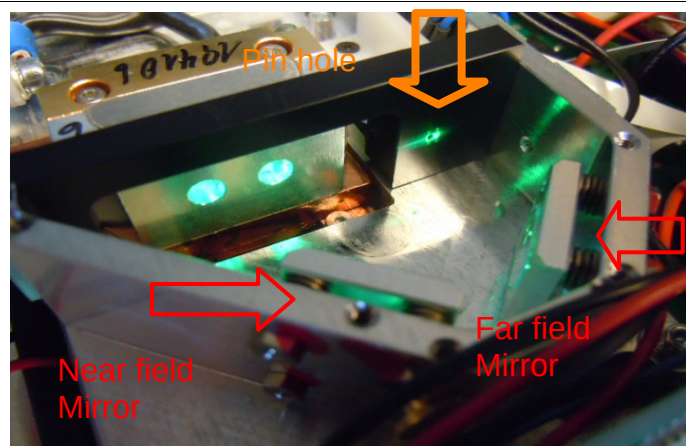
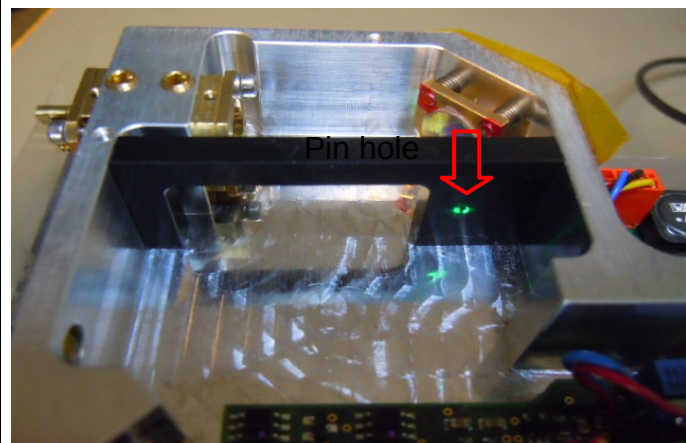

Figure 40: Near field
Figure 41: Far field
- place the near field tool after the second bending mirror according Figure 40: Near field
- place the far field tool before fiber coupling (Figure 41: Far field)
- adjust the far field mirror (Figure 40: Near field ) so that the laser beam is in the center of the far field pin hole (Figure 41: Far field), this means, of the 2 laser beam, is one at the right and the other one at the left side of the pin hole